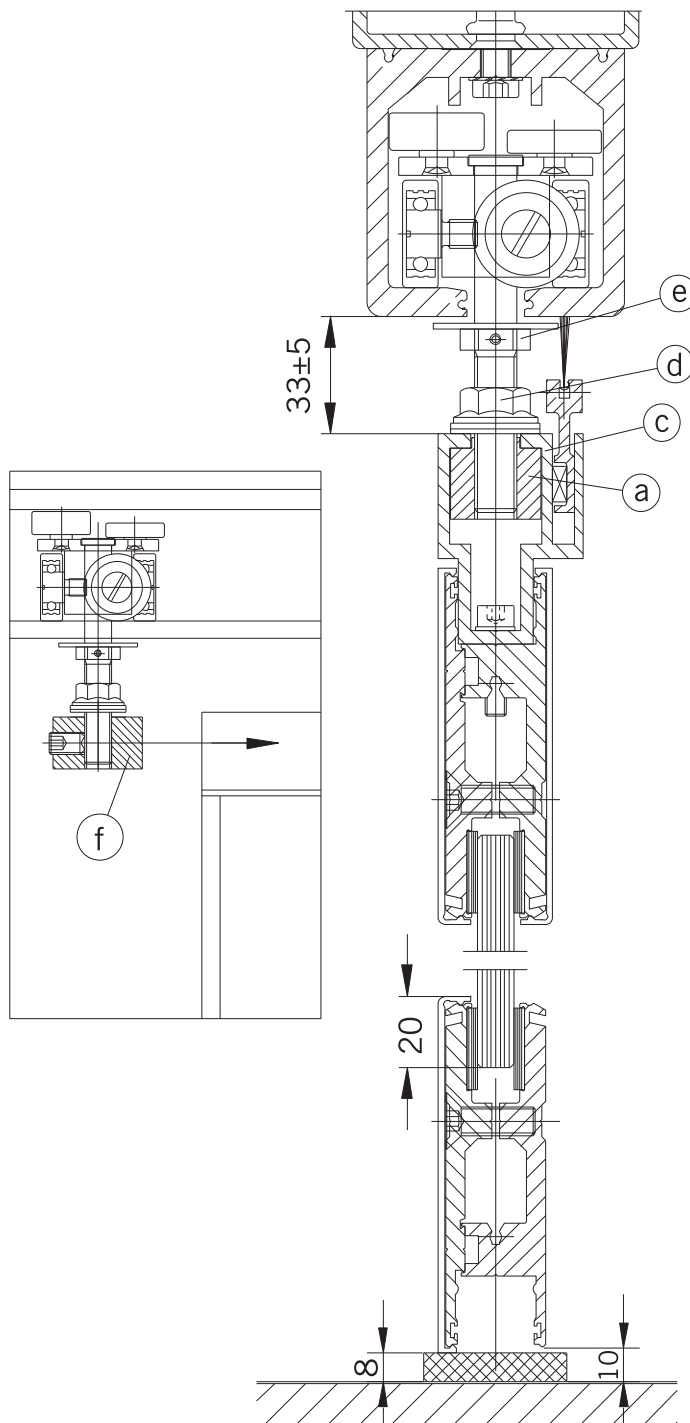

Fig. 9
9. Threading the panels (Fig. 9):